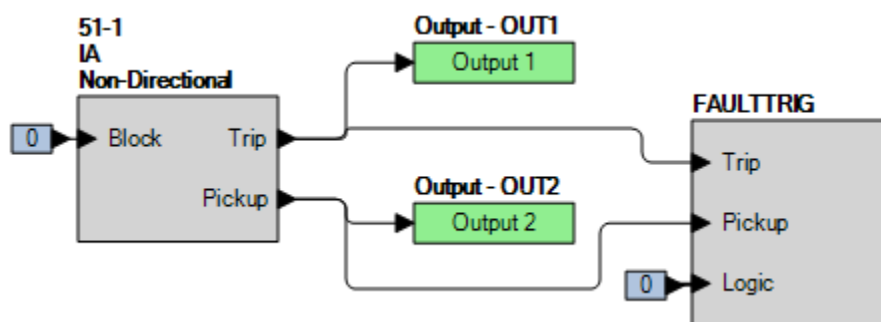

Figure 65-1. BESTlogicPlus Settings (Phase Mode)
Step 2: Use BESTCOMSP*lus* to configure the BESTlogic*Plus* programmable logic shown in Figure 65-1.
- Step 4: Prepare to monitor the 51-1 function operation. Operation can be verified by monitoring OUT2 (see Figure 65-1).